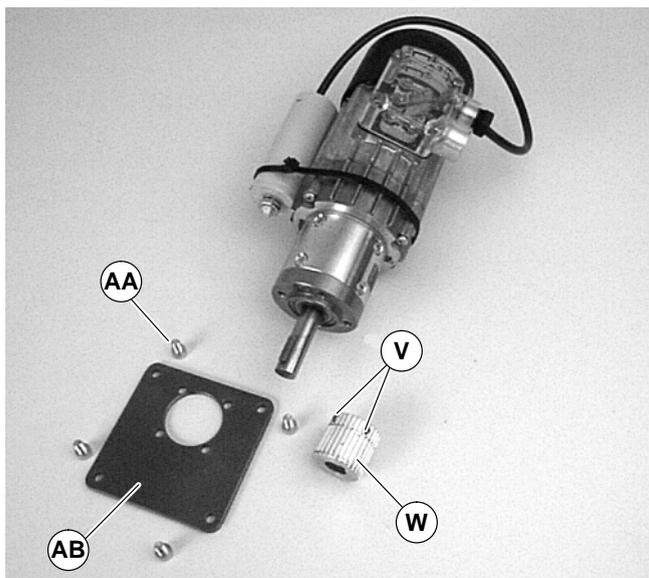

Figure 18
- Loosen two (2) set screws (V of Figure 18). Remove drive pulley (W).